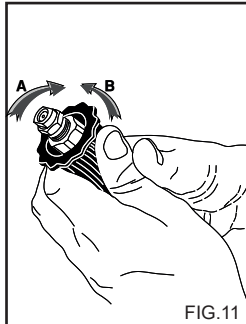

FIG.11
USING THE ADJUSTABLE HEAD (Fig. 11)
- 2) Start the cleaner, activate the detergent suction control on the lance (fig. 11) and spray the surface to be washed, working from the bottom upwards.